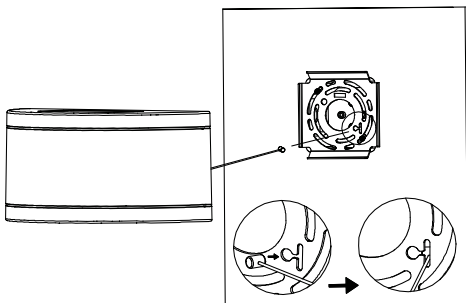

Fig. 4
4. Attach the safety cable to the bracket to hold the fixture onto the wall. (Fig. 4)